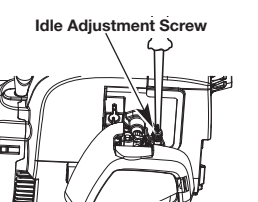

Fig. 21
The idle speed of the engine is adjustable. An idle adjustment screw is between the air filter cover and the engine starter housing (Fig. 21).
2. Release the throttle trigger and let the engine idle. If the engine stops, insert a small Phillips screwdriver into the idle adjustment screw (Fig. 21). Turn the idle speed screw **clockwise** 1/8 of a turn at a time (as needed) until the engine idles smoothly.